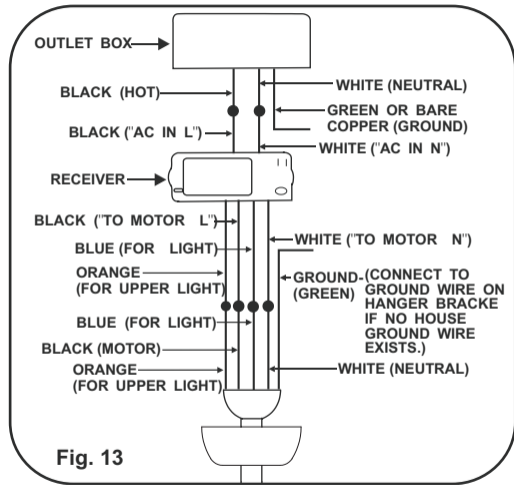

Fig. 13
**NOTE:** If your ceiling fan features an UP Light: Connect the ORANGE wire from the fan to the ORANGE wire marked "For Up Light" from the Receiver. Otherwise disregard this step and proceed to secure all wire connections with the plastic wire nuts provided. (Fig.13)
**Step 3. Receiver to House Supply Wires Electrical connections:** Connect the **WHITE** wire (Neutral) from the outlet box to the **WHITE** wire marked "AC in N" from the receiver. Connect the **BLACK** wire (Hot) from the outlet box to the **BLACK** wire marked "AC in L" from the receiver. Secure all wire connections with the plastic wire nuts provided. (Fig. 13)
**Step 4.** If your outlet box has a **GROUND** wire (Green or Bare Copper) connect this wire to the Hanger Ball and Hanger Bracket Ground wires. If your outlet box does not have a Ground Wire, then connect the Hanger Ball and Hanger Bracket Ground Wire together. Secure wire connection with the plastic wire nut provided. (Fig. 13)